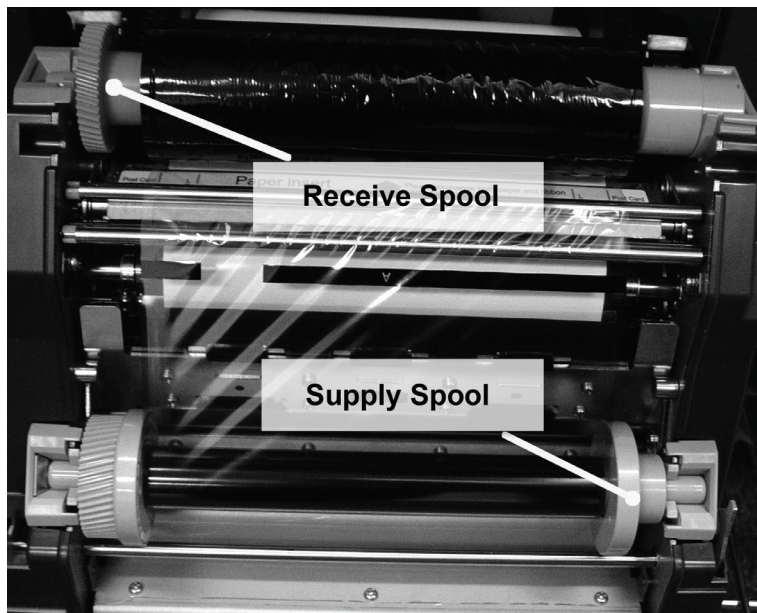

Figure 4. Ribbon Cradles
2. Insert the receive spool in the upper ribbon cradles with the geared end on the left (see Figure 4).
3. Insert the supply spool in the lower ribbon cradles with the geared spool on the left (see Figure 4).